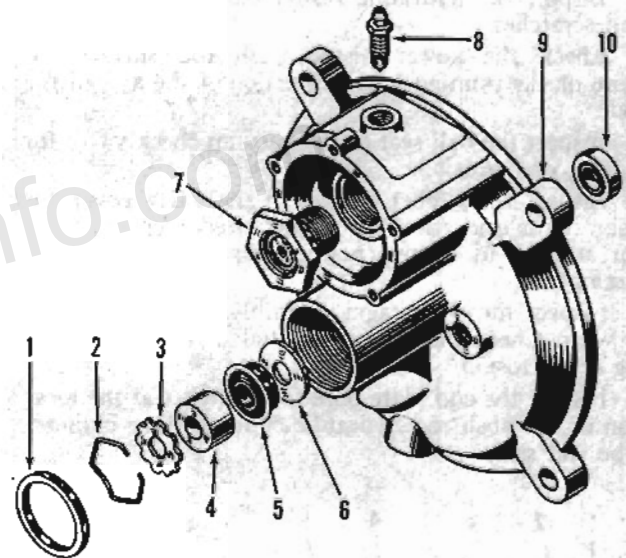
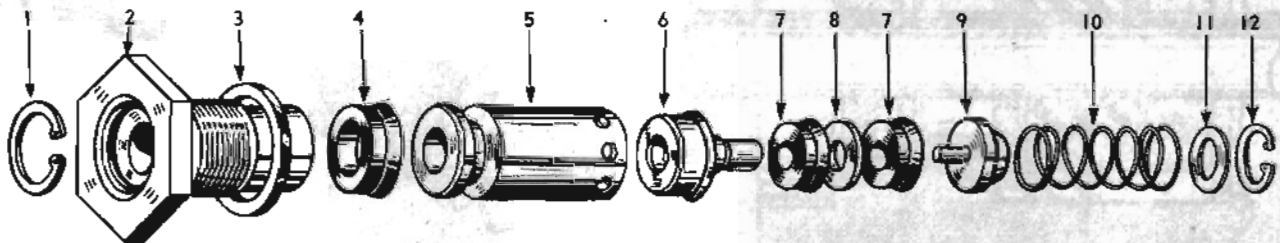

FIG. 38
FIG. 39
**Control Valve**—Using a 1 1/8" (28,58 mm.) socket wrench, remove the hydraulic control valve fitting (7, Fig. 38) and gasket from the end plate. With a snap ring pliers, remove the snap ring (1, Fig. 39). Push the piston and sleeve assembly out of the fitting and remove the hydraulic cup (4) from the piston sleeve (5). Remove the snap ring (12) from the end of the sleeve and remove the washer (11), spring (10), spring retainer (9), and piston (6). Remove the two hydraulic cups (7) and washer (8) from the piston.
**End Plate Seals**—Remove the hydraulic cylinder end seal (10, Fig. 38). Remove the snap ring (2) and then remove the stop washer (3), retainer (4), seal
**Control Valve**—Coat the piston cups (7, Fig. 39) with brake fluid and assemble the cups and washers (8) on the piston (6). Assemble the cups with the lips pointing toward the small end of the piston. Install the spring retainer (9) at the end of the piston and insert the parts into the piston sleeve (5). Place the spring (10) and washer (11) inside the sleeve and install the snap ring (12). Coat the hydraulic cup (4) with brake fluid and install the cup in the recess of the sleeve with the cup lip pointing toward the snap ring end of the sleeve. Coat the bore of the fitting (2) with brake fluid and insert the assembled part. Install the snap ring (1). Coat the seal (3) with brake fluid and slip it over the threads of the fitting. Install the fitting into the end plate and tighten with a  $1/8''$  (28,58 mm.) socket wrench.